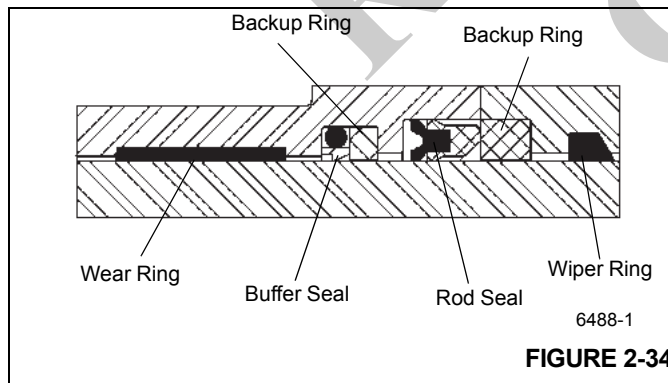

FIGURE 2-34
14. Install the buffer seal, backup rings and rod seal into the head ensuring the seals are assembled properly and installed in the correct direction (Figure 2-34).